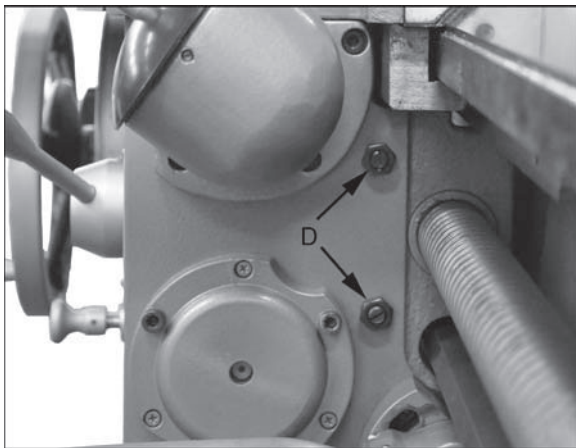

Figure 37 – Half Nut gib adjustment
**Half Nut** – Gib screws are located on the right side of the apron (D, Figure 37). Loosen the jam nuts and rotate the screws clockwise until any backlash is corrected. Then retighten nuts.